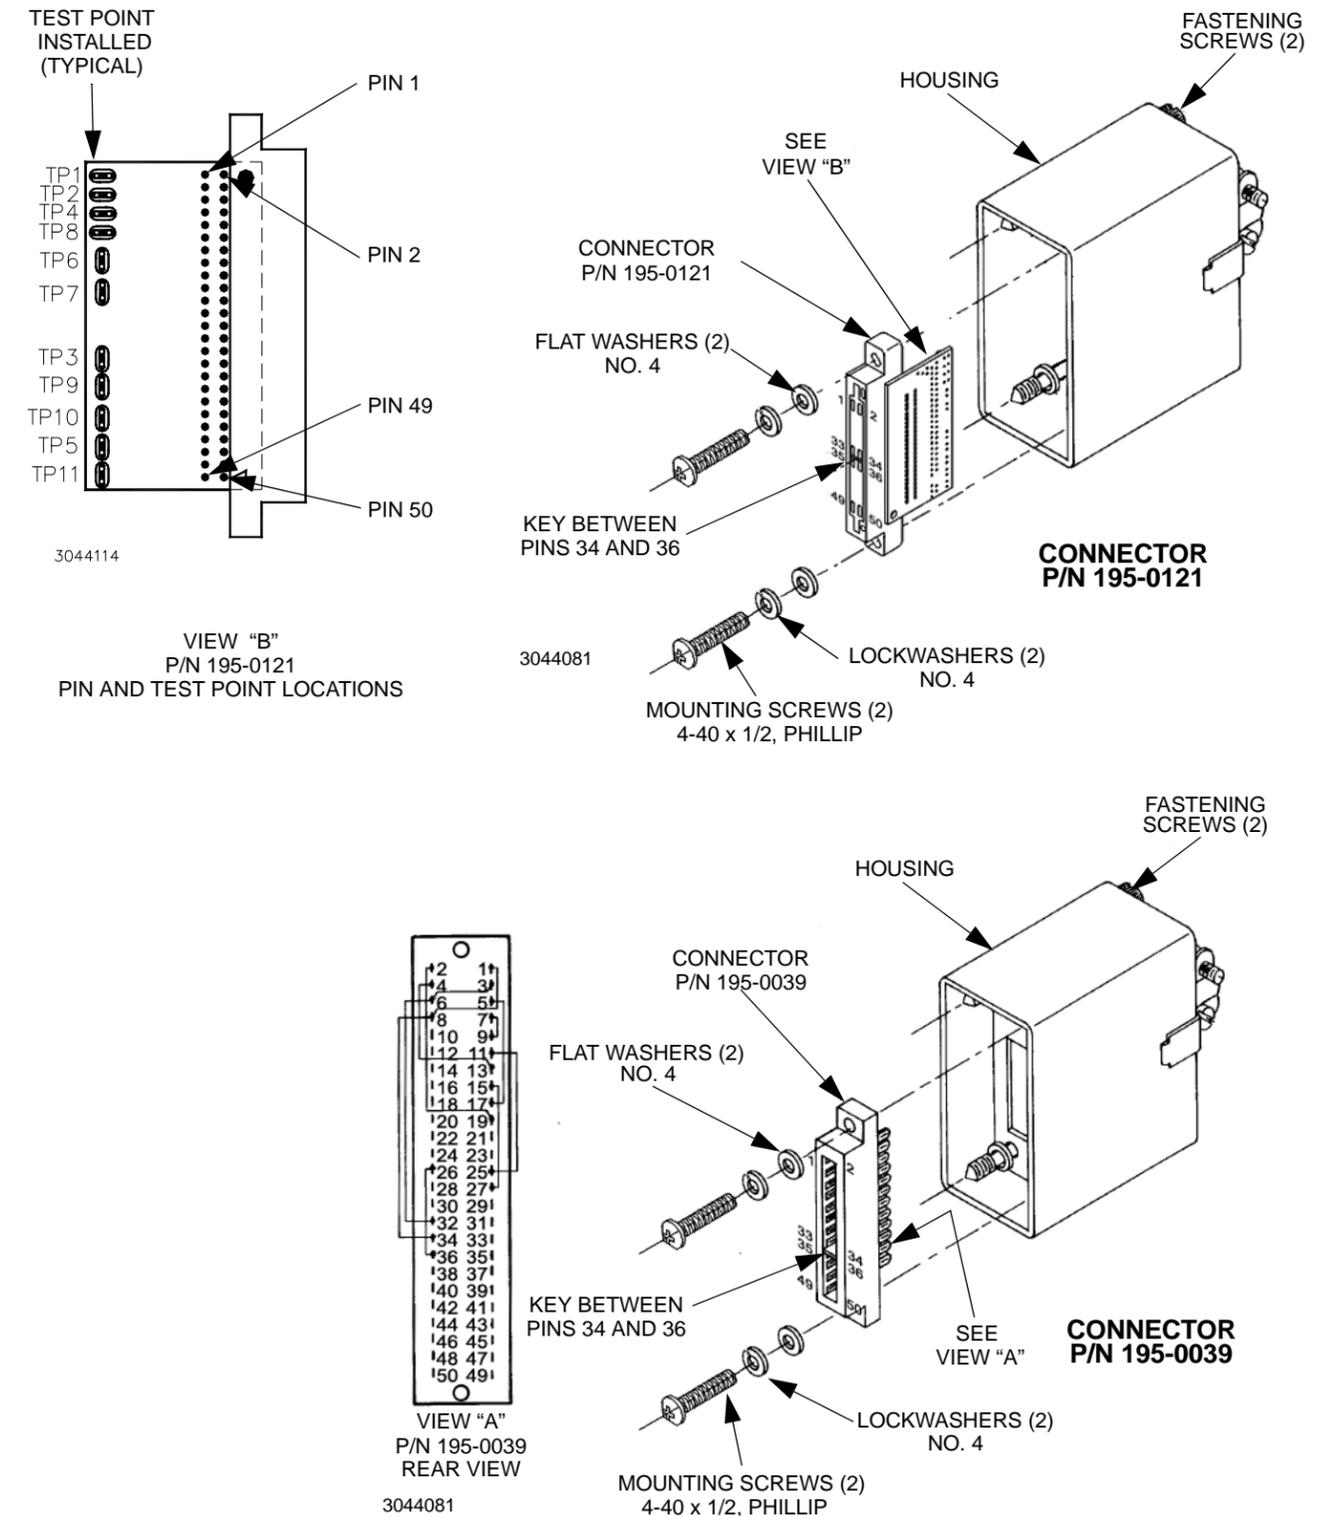

Figure 3-27. PC 15/PC 12 Rear Programming Connector Interconnections
- SEE FIGURE 3-27 FOR REAR PROGRAMMING CONNECTOR CONNECTIONS REQUIRED FOR LOCAL CONTROL.
NOTE: See PAR. 3.2.1 and Figure 3-27 for Rear Programming Connector details.